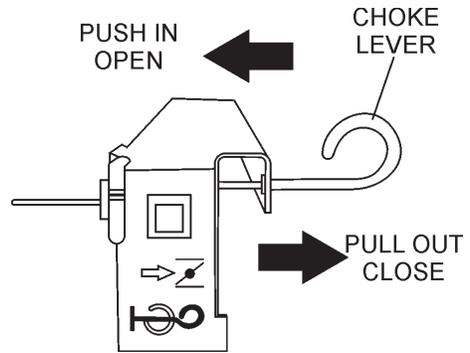

Figure 12. Choke Lever
2. Place the **choke lever** (Figure 12) in the "CLOSED" position if starting a *cold* engine.
3. Place the **choke lever** (Figure 12) in the "OPEN" position if starting a *warm engine* or the *temperature is warm*.
- If the engine has started, slowly return the choke lever (Figure 12 ) to the **"OPEN"** position. If the engine has not started repeat steps 1 through 6.